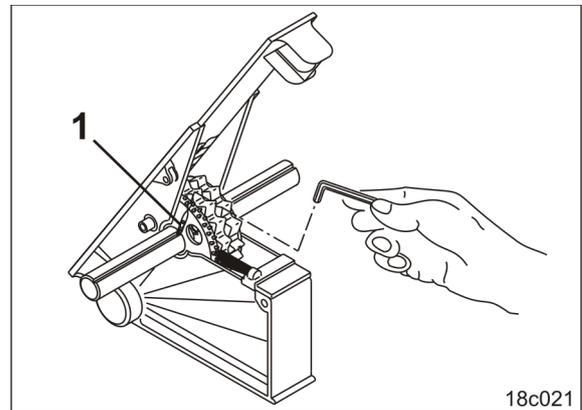

Fig. 225
3. Unscrew the hexagon socket screws (Fig. 225/1) on the new tramline seed metering wheels until the new tramline seed metering wheels can turn freely on the seeding shaft.